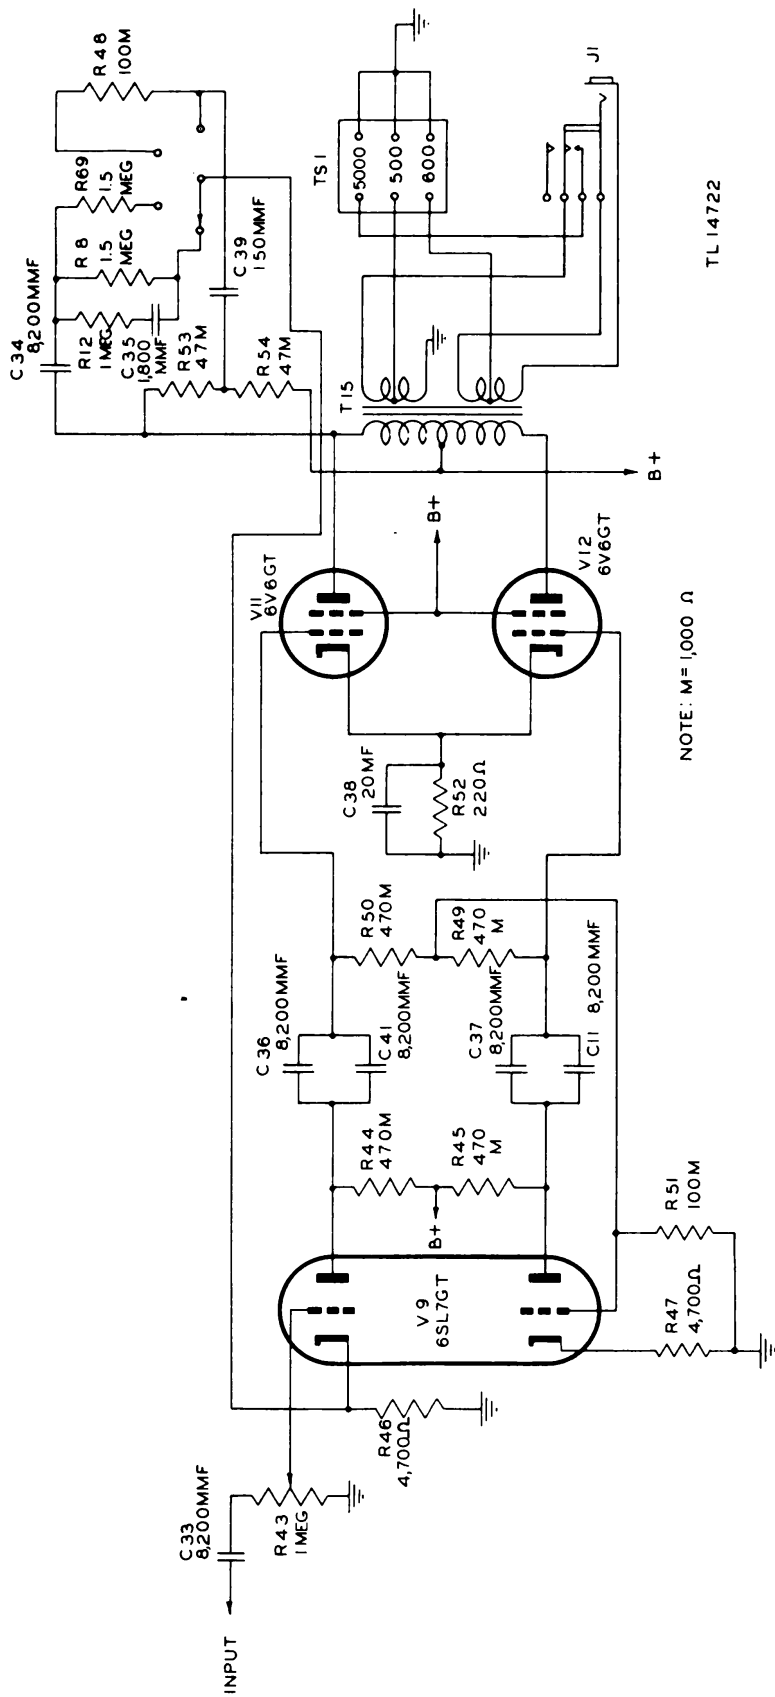

Figure 14. Radio Receiver BC-787-B, audio amplifier schematic.
j. Audio Amplifier (fig. 14). The audio amplifier consists of a push-pull voltage amplifier utilizing tube V9, a type 6SL7GT twin triode, and a push-pull power amplifier using two type 6V6 beam power amplifiers V11 and V12. The audio signal from either the a-m detector or the f-m discriminator is fed to the control grid of the first triode section of tube V9 through coupling capacitor C33 and a-f gain control R43. Self-bias is provided by cathode resistors R46 and R47, and since they are unbypassed, degeneration is introduced. The audio signal appears in greater amplitude